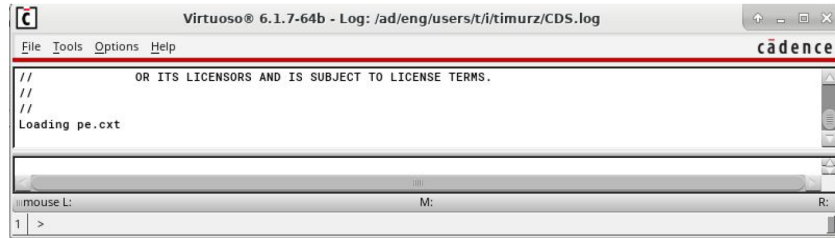

Figure 1: “Command Interpreter Window” (“CIW”)
2. After you type the command, the “Command Interpreter Window” (“CIW”) (see Figure 1) will pop up. This is your main Cadence window.